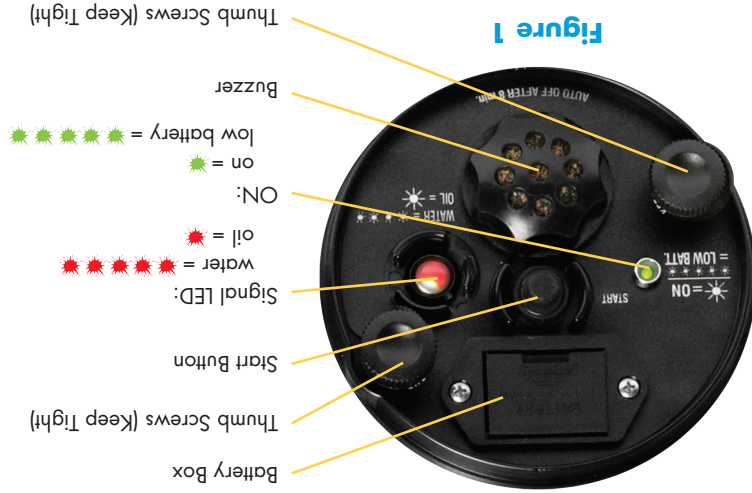

Figure 1
Switch the H.OIL/Sm.OIL on by pushing the start button in the center of the electronic panel. The green LED indicates that the unit is ready for use. If the LED does not light, then replace the battery. The green LED will stay on for approximately 8 minutes. Every time the start button is pressed the 8 minute timer will reset. When the 9 volt battery is almost drained, the green LED will start to blink when the unit is signalling. The battery should be replaced as soon as possible. (See Figure 1)
Switch the unit on by pushing the start button in the center of the electronic panel. (See Figure 1) The unit will now be active for 8 minutes (the unit switches itself off automatically). The green LED indicates that the unit is ready for use. If the green LED switches off while the meter is being used, push the center start button again and re-start the unit.
- Make sure retaining thumb screws are tight (Figure 1).